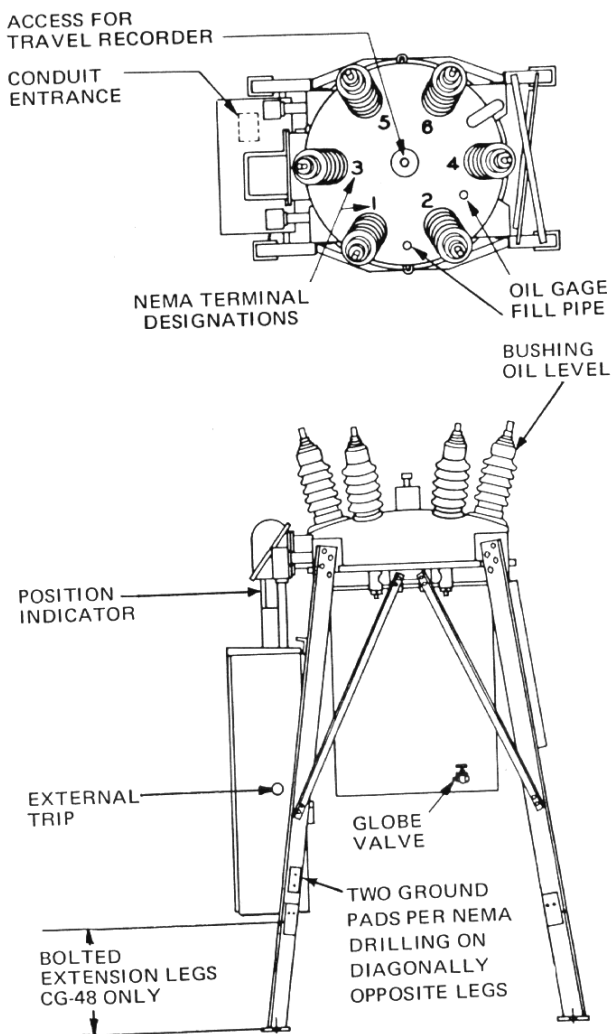

Figure 2
Standard NEMA terminal designations are shown in Figure 2. Facing the mechanism cabinet and from front to rear terminals are numbered 1 and 2 on the right, 3 and 4 in the center and 5 and 6 on the left.
Prior to installing a CG-48 breaker in its permanent position, attach the extension legs (Figure 2).
- A. Clean the surface of the ground pad on the breaker leg (Figure 2).